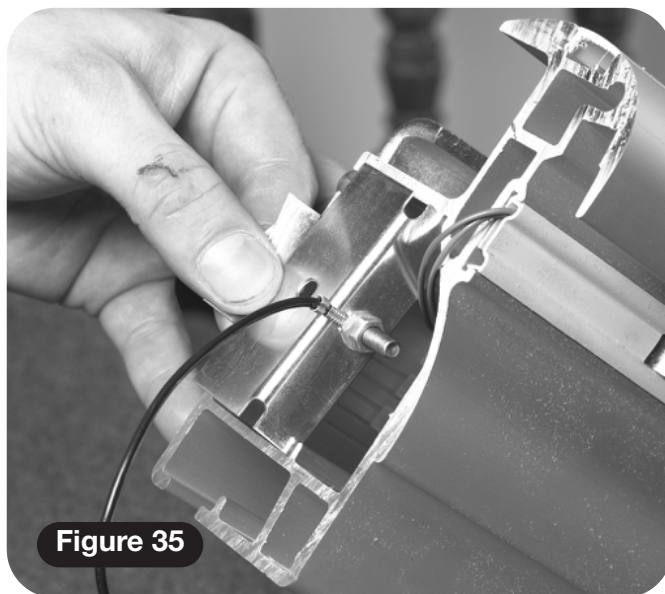
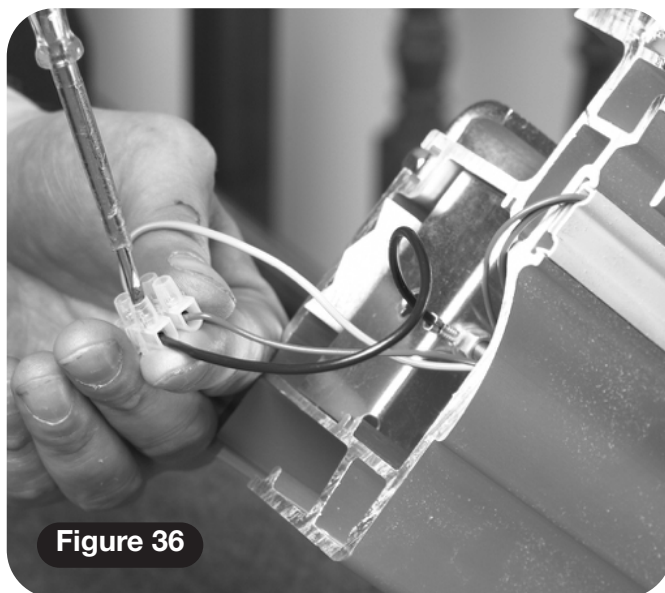

Figure 35
Figure 36
- a Insert the nut plate pressing with the negative connection (**Figure 35**). Connect the negative flying lead (black) to the spare section of the two way connecting block (**Figure 36**).
- a** Insert the nut plate pressing with the negative connection (**Figure 35**). Connect the negative flying lead (black) to the spare section of the three way connecting block (**Figure 38**).